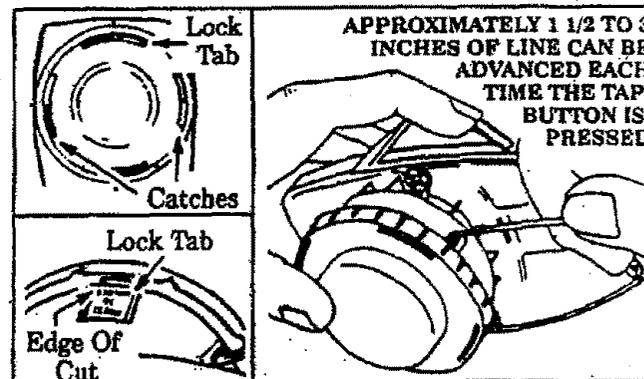

Figure 14
- h. Reinstall the Tap Button and Lock Ring. Turn the Lock Ring clockwise and fasten the Lock Tabs in all four Catches on the Hub. Figure 14.
**NOTE:** Check to be sure the lock ring is properly installed by attempting to turn the ring counterclockwise and pulling on it. Make sure the catches and lock tab appear from the bottom of the head as shown in Figure 14 (insets). Be sure the lock tab hits the edge of the cut-out when you turn the lock ring counterclockwise. Properly reinstall if the lock ring comes off or if the lock tab or catches do not look like those shown in Figure 14.
- i. Pull the line to change the spool from the locked position to the operating position. Figure 14.
**NOTE:** Approximately 1 1/2 to 3 inches of line can be advanced each time the tap button is pressed. Figure 14.